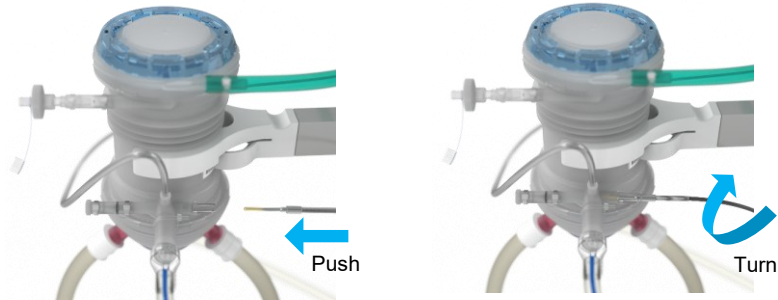

Figure 15 Connection of the temperature sensor to the oxygenator
- Connect the red HA T1 sensor to the HA oxygenator outlet and the red PV T1 sensor to PV oxygenator outlet (Figure 15).